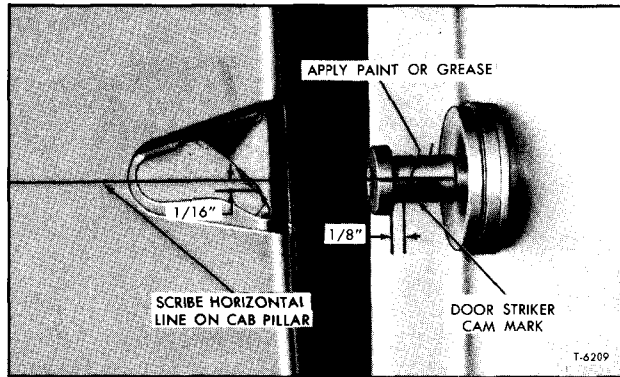

Figure 17—Striker Bolt Alignment
1. To check striker bolt for proper fore and aft adjustment, smear grease or paint to contact side of bolt as shown in figure 17.
the cam impression in grease. Distance should measure 1/8-inch as shown in figure 17. This dimension is necessary to assure that the head of striker bolt will ride at center of nylon shoe.
1. Mark a horizontal line through center of "V" slot and on door lock cam as shown in left view of figure 17.